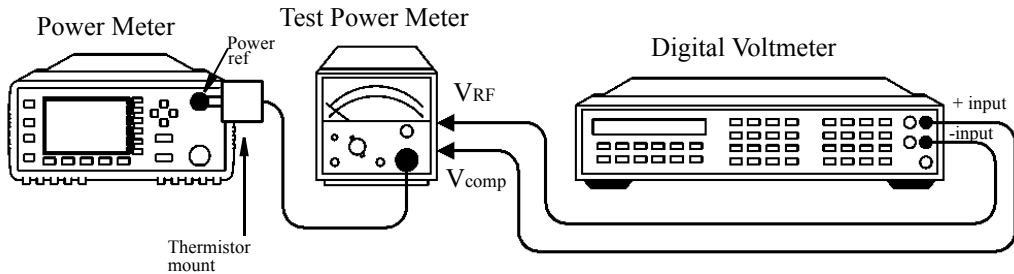

Figure 2-4: Power Reference Level Test Setup
2. Round off the DVM reading to two decimal places and note this value as the internal bridge resistance (R) of the Agilent 432A (approximately $200\ \Omega$).
3. Connect the equipment as shown in Figure 2-4, ensuring that the DVM input leads are isolated from chassis ground.